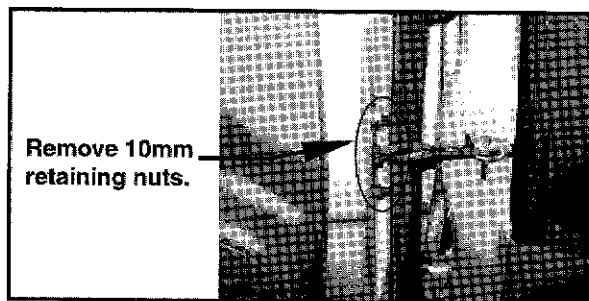

Figure 7
10. Remove the two check arm 10mm retaining nuts (Figure 7). Refer to steps 3 and 4 to remove check arm from bracket (Figure 7)